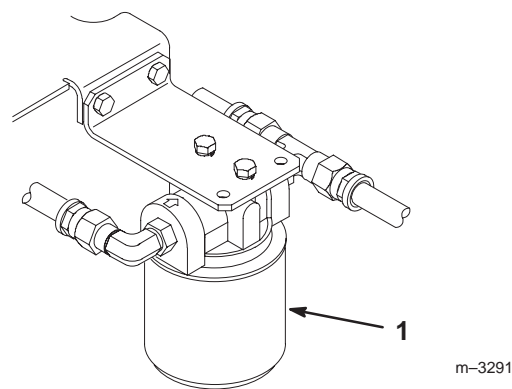

Figure 27
3. Place drain pan under filter, remove the old filter and wipe the filter adapter gasket surface clean (Fig. 27).